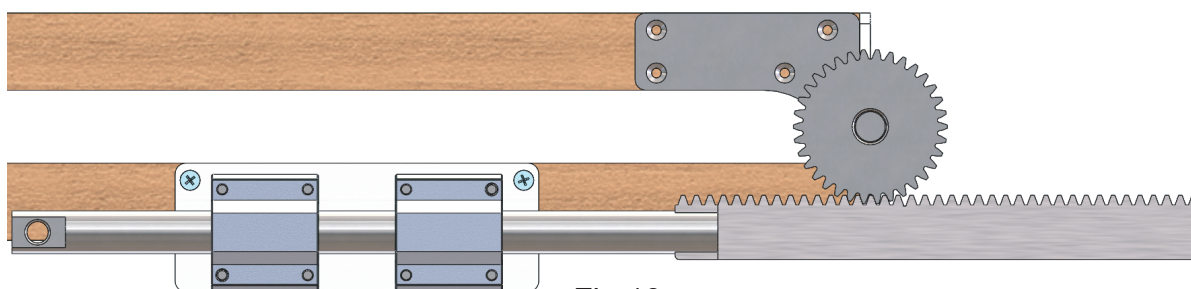

Fig 10
9. Put the ④ gear connection rod in suitable position, and then drill the fixing holes as Fig 10.